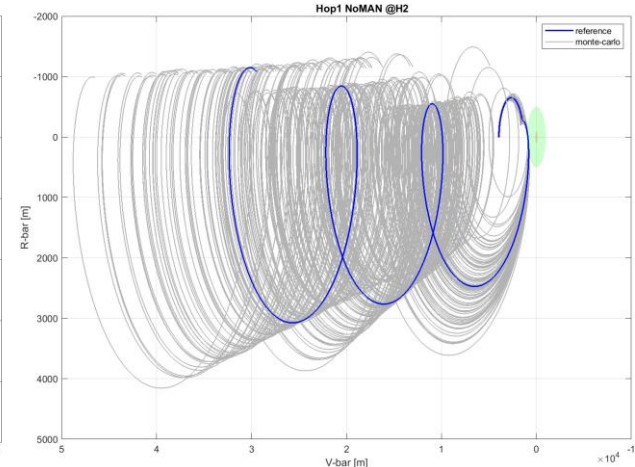

Fig.3
- failure case after the second maneuver (no braking boost), mostly safe, except for a very little number of limit cases (Fig.3)